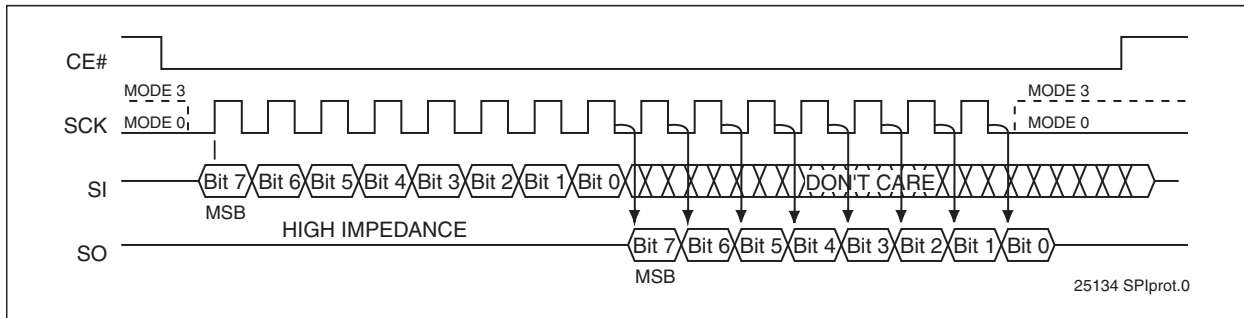

FIGURE 4-1: SPI PROTOCOL
The SST25PF040B supports both Mode 0 (0,0) and Mode 3 (1,1) of SPI bus operations. The difference between the two modes, as shown in Figure 4-1, is the state of the SCK signal when the bus master is in Standby mode and no data is being transferred. The SCK signal is low for Mode 0 and SCK signal is high for Mode 3. For both modes, the Serial Data In (SI) is sampled at the rising edge of the SCK clock signal and the Serial Data Output (SO) is driven after the falling edge of the SCK clock signal.